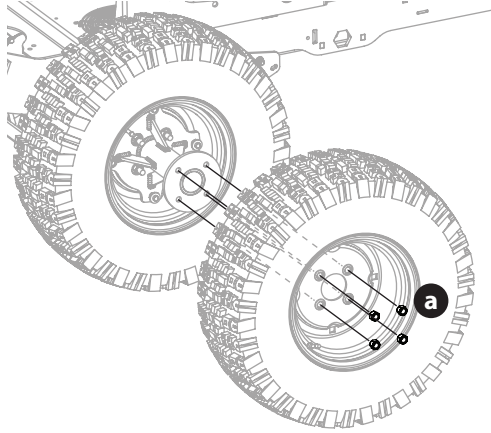

Figure 1
1. Remove the four outer lug nuts (a) to remove the outer wheel (Figure 1).